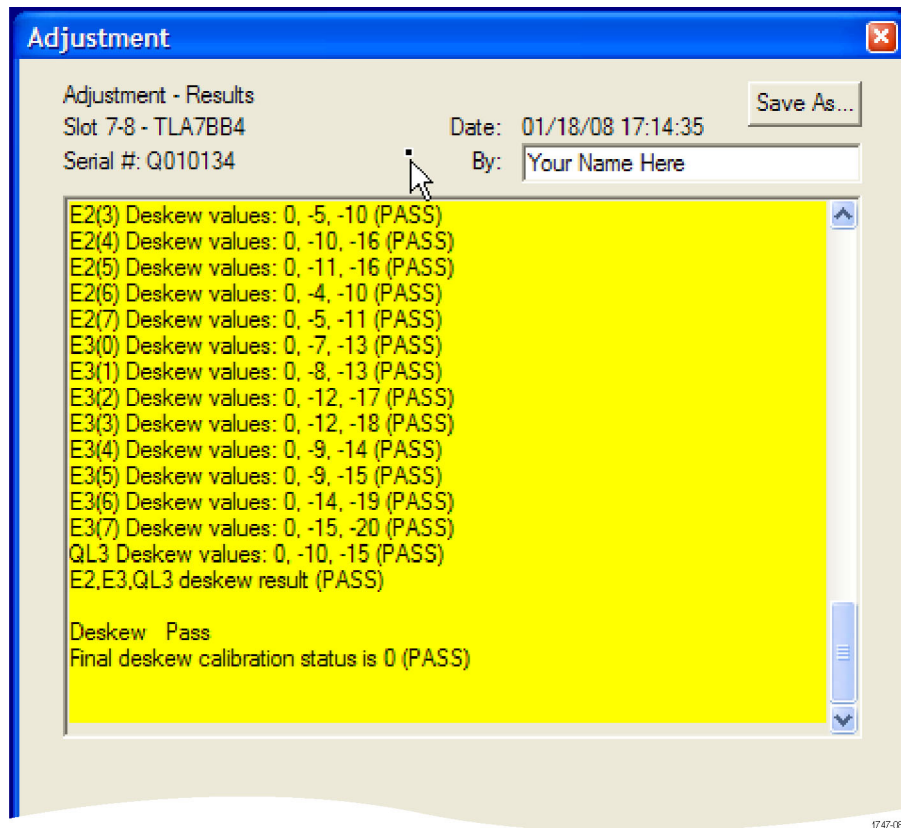

Figure 60: Example of adjustment results
- Click the Next button to begin the procedures and follow the on-screen instructions. The software will begin the adjustment procedures and display the results in the dialog box. (See Figure 60.)